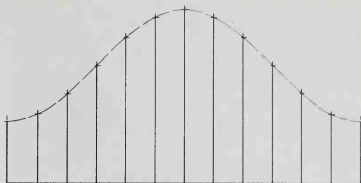

Fig. 1-49. Freehand line sketched through points on an irregular curve.
- Sketch a very light freehand curve through these points, Fig. 1-49. (If curve is to be completed by the freehand method, darken the line by letting the eye lead the pencil over the light construction lines. If French curve is to be used, omit freehand darkening of line, and continue with Step 3.)